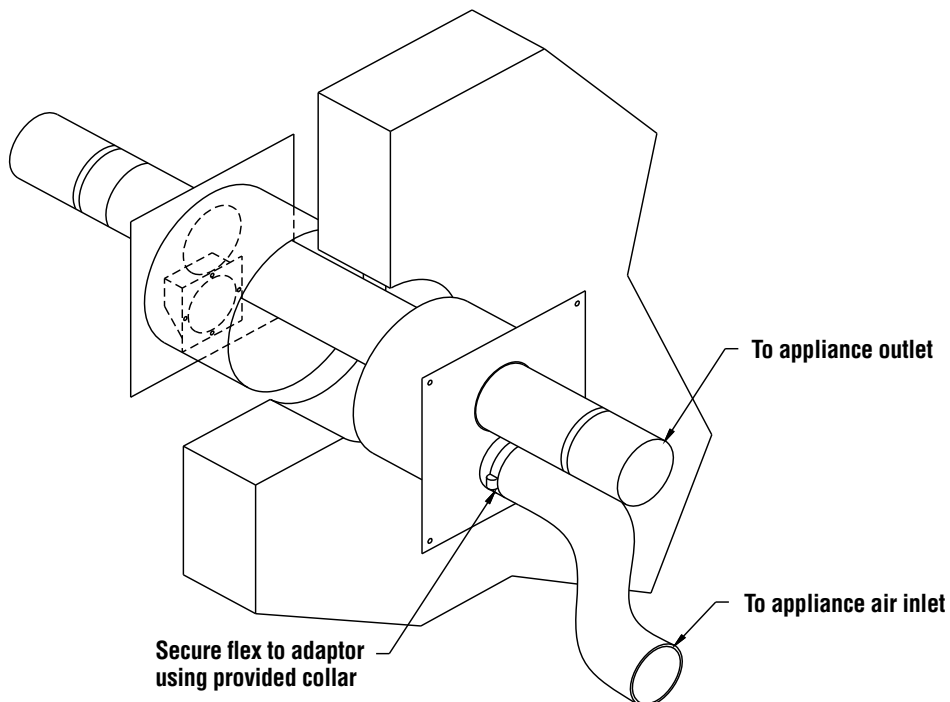

Figure 15
6. Secure the flex pipe to the adaptor on the decorative plate of the wall thimble using a collar. See **figure 15**.